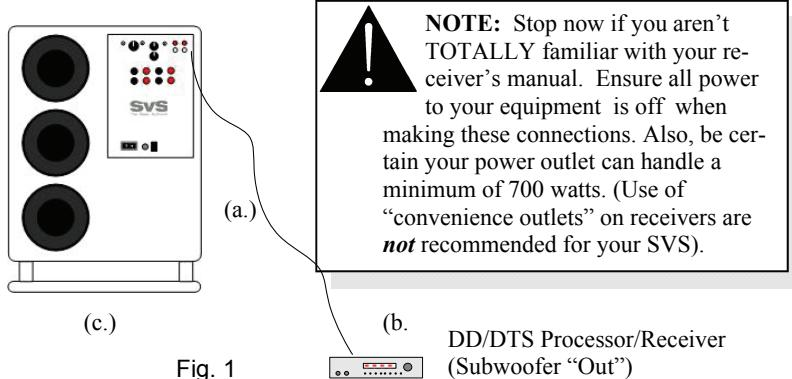

Fig. 1
**Location.** They say it's "all about location", right? It's the same with setting up your subwoofer. So, where to put it? *Go for a corner* if you can, and avoid putting your sub where it might adjoin large open areas. Studies have shown the deepest and flattest bass response is typically attained when a subwoofer is placed within a few feet of one of your room's corners. Whether you put the sub in front or to the rear of your seating area usually makes surprisingly little audible difference. Deep movie and music bass, like that from Dolby Digital (DD) "5.1 channel" DVDs and digital audio is largely non-directional. You can't tell where it is coming from, even though you can hear, and feel it.
**Hook-up (see fig. 1).** There are a variety of ways to configure your new sub. Usually, a simple mono, shielded 75 Ohm A/V RCA type cable (a.) is used to take the subwoofer output of your DD/DTS surround sound receiver (b.) and feed the low-level input of the SVS's amp. There is no need to "split" the signal going to the sub (c.). You can feed either one of the two amp inputs, it doesn't matter, right or left.